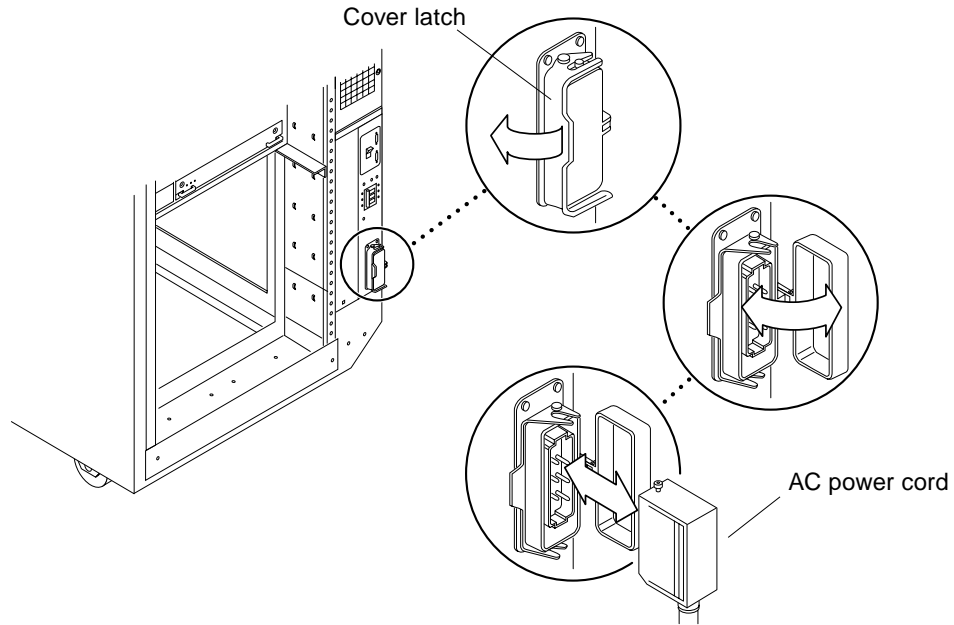

FIGURE 2-4 Connecting the AC Power Cord
6. Open the cover latch (FIGURE 2-4) and connect the AC power cord to the power sequencer connector.